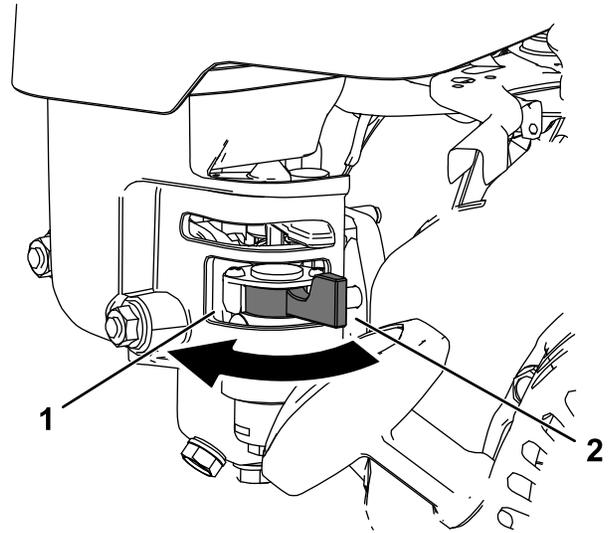

Figure 22
- To open the fuel valve, turn the fuel-shutoff lever toward the recoil starter handle (Figure 22).
- To shut the fuel valve, turn the fuel-shutoff lever away from the recoil starter handle (Figure 22).